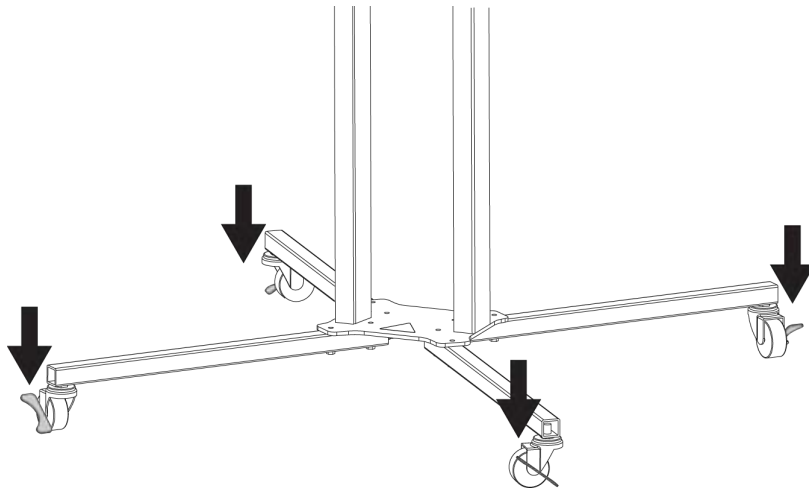

Figure 13 Swivel Casters with Brakes
1. Make sure that the stand is positioned on a level surface and lock the brakes of the four swivel casters (refer to Figure 13).